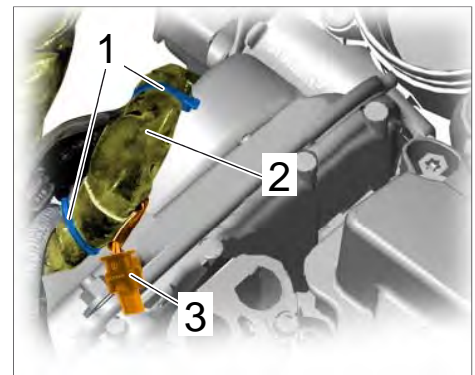

Figure 6
- 3.13 Secure individual wires routed next to the main wire harness ⇒ *Figure 6 -item 2-* with tie-wraps ⇒ *Figure 6 -item 1-*. Cut off the extra length at the ends of the tie-wraps with side cutters.
- 3.14 Route connector ⇒ *Figure 6 -item 3-* forward to the hydraulic valve for camshaft control.